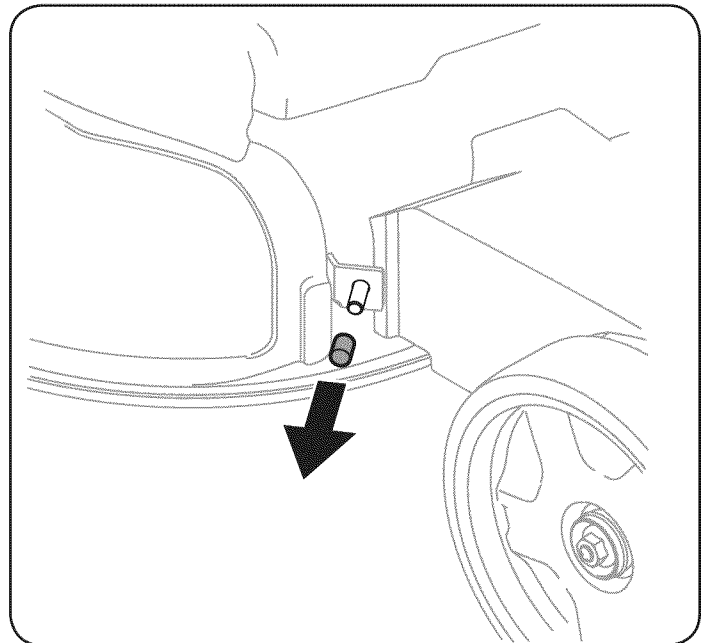

Figure 7
1. Remove the vinyl cap on the deck stud in front of the discharge opening. See Figure 7.